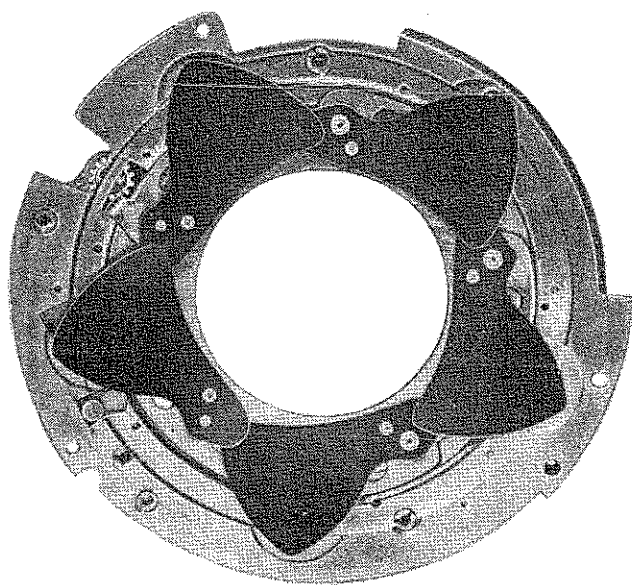

Figure 49—Shutter Blades in Position on Mechanism Plate
3. Replace one of the two plain blades (5, figure 41) over the first blade with double blade bushing and stud to be put on, fitting one hole in the blade over the stud on the mechanism plate and the other hole over the stud on the blade with double blade bushing and stud. Then replace the remaining blade over the second blade with double blade bushing and stud to be put on. When this has been done the back of the mechanism plate should appear as shown in figure 49.